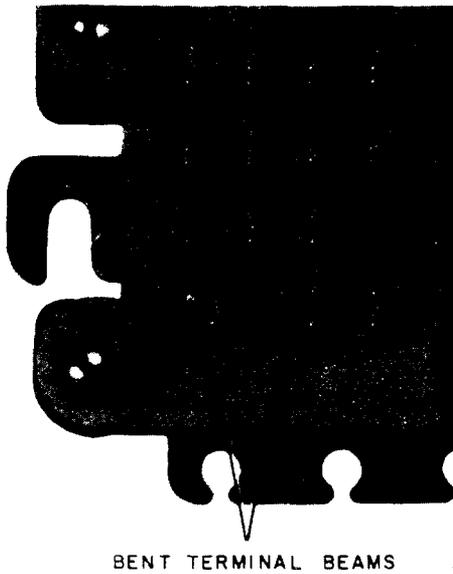

Fig. 21—Misaligned Terminal Beams
8.02 Terminals which have been bent or misaligned, as shown in Fig. 21, may be corrected by using long-nose pliers (Fig. 22). The bent beam should be moved until it is aligned with its mate or with other terminals of the same row. Care should be taken not to move beams or terminals in a direction which would spring or open the contact surfaces between the two beams.